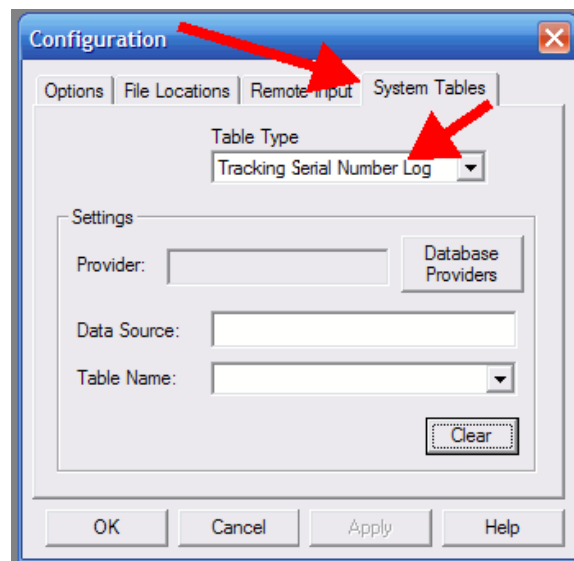

Figure 4-3
4.2.2. Click the *System Tables* tab. (Figure 4-3)
4.2.3. Select *Tracking Serial Number* from the *Table Type* drop-down list. (Figure 4-3)